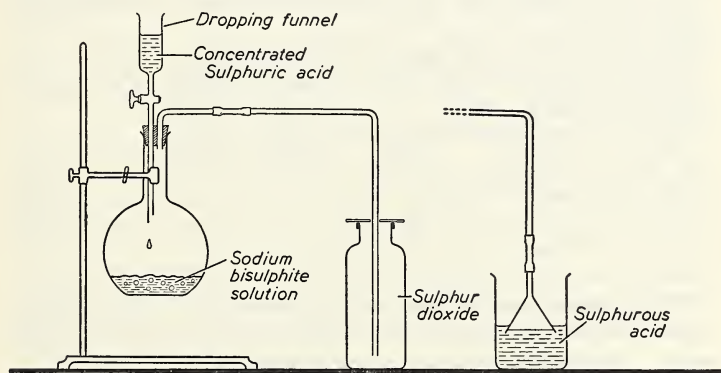

Fig. 66. The laboratory preparation and collection of sulphur dioxide.
1. Arrange the apparatus as shown in Figure 66, and place a concentrated solution of sodium bisulphite in the flask. Control the rate at which sulphuric acid drops into the flask, so that a steady flow of gas is produced.